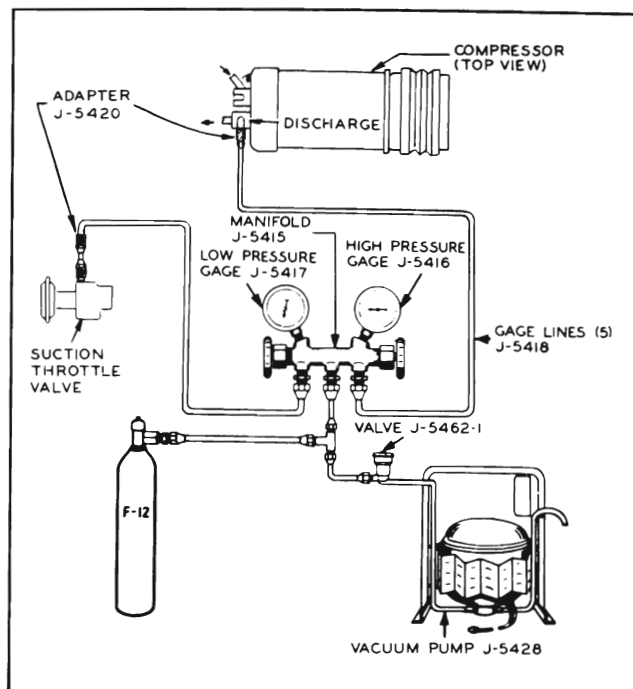

Figure 11-129—Service Gauge Hook-up for Functional Testing and Adjusting Suction Throttle Valve
7. Remove low pressure gauge line and adapter from suction line at rear of compressor and attach to schrader valve located on suction throttle valve. See Figure 11-129.
3. Gage set connected to Schrader valve fittings as shown in Figure 11-129.